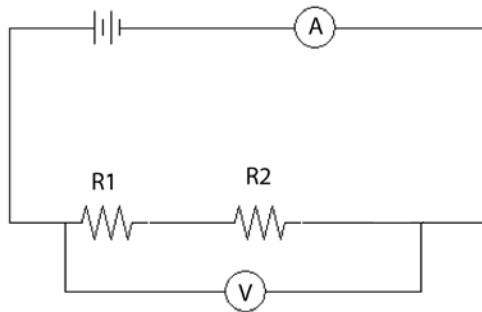

Figure 3.13: Schematic for 2 resistors connected in series.
- Construct the circuit shown in Fig. 3.13.** Use two different resistors having resistances of approximately $1\text{ k}\Omega$ and $2\text{ k}\Omega$. Set the power supply voltage to the middle of its range and record your measured voltage and current in Data Table 3.